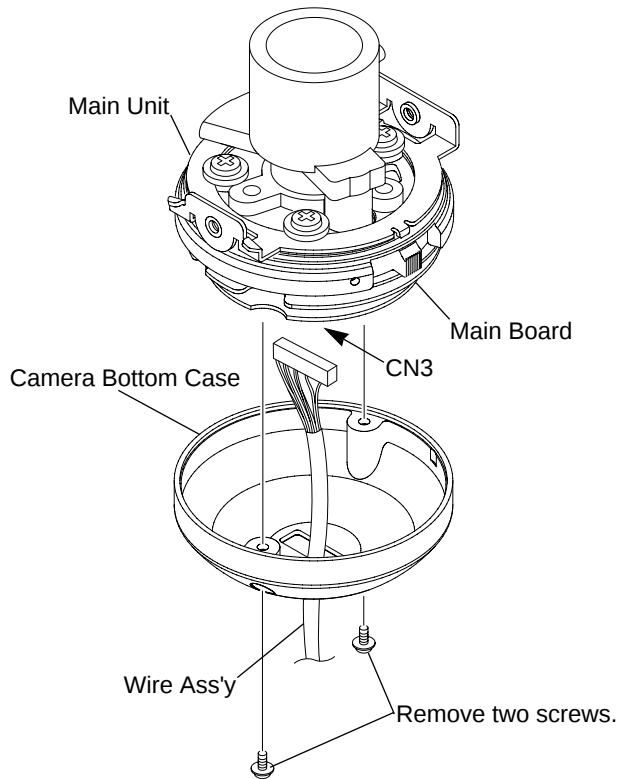

Fig. 2-4
- Referring to Fig. 2-4, remove two screws that secure the Camera Bottom Case and remove the Camera Bottom Case from the Main Unit.